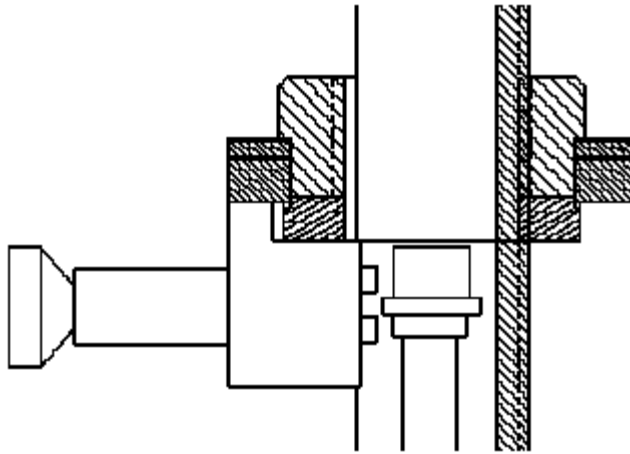

Figure 2. Insert Slide (Retracted Position)
5. Move the INSERT SLIDE to the RETRACTED POSITION by pulling back on the KNOB. (See **Figure 2**.)
7. Move the INSERT SLIDE to the RETRACTED POSITION. (See **Figure 2**.) Raise the SPINNER NUT until it clears the PROBE. Unlock the SWING ARM, and remove the Easy Tool from the PACKING BODY.
7. Move the INSERT SLIDE to the RETRACTED POSITION. (See **Figure 2**.) Raise the SPINNER NUT until it clears the PROBE. Unlock the SWING ARM and remove the Easy Tool.